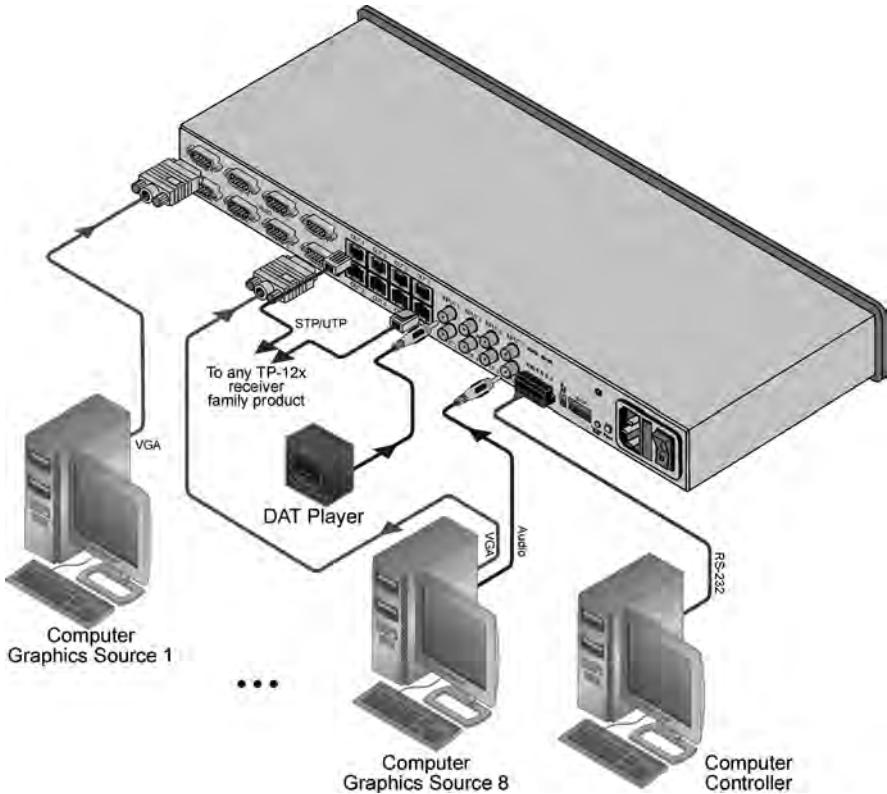

Figure 2: Connecting the TP-185, 8 Channel UXGA/Audio/RS-232 to CAT 5 Transmitter
To connect¹ the TP-185, as illustrated in the example² in Figure 2:
5. Connect the power cord¹ (not shown in Figure 2).